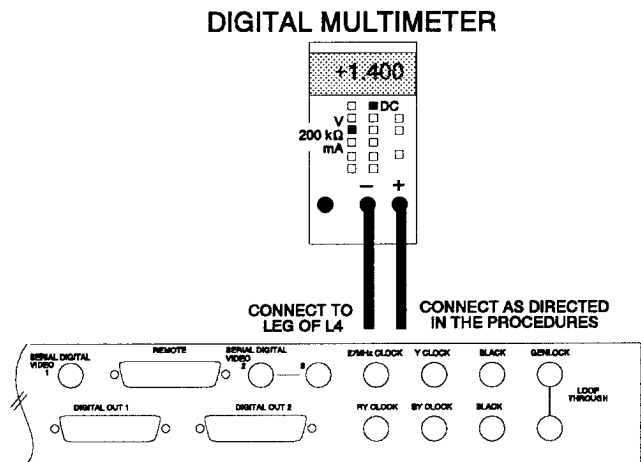

Fig. A-10. Setup to adjust the Serial Digital Video Output Amplitude.
- Connect the “—” probe from the digital multimeter to L4 (-12VA as shown in Fig. A-4) and the + probe to TP8 as shown in Fig. A-10.
- Connect the “—” probe from the digital multimeter to L4 (-12VA as shown in Fig. A-4) and the + probe to TP108 as shown in Fig. A-10.